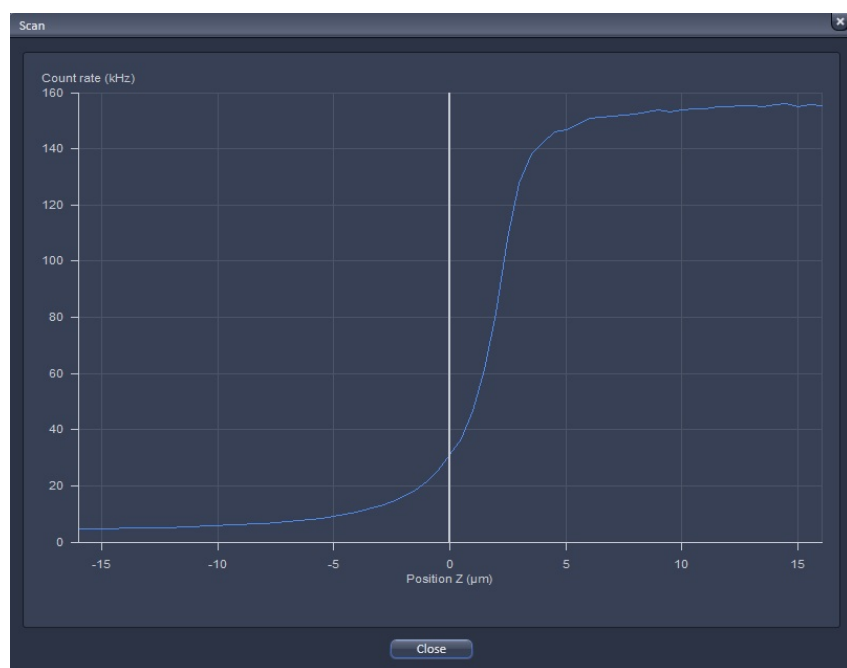

Fig. 321 Z Scan image
- Press the **xyz-Scan** ConfoCor action button to perform a z scan. The z scan is performed and the measured intensity is displayed in dependence of the z-position (Fig. 321). The red line in the diagram shows the actual z-position. Peaks (normally two from the two lower and upper membranes) show levels of high signal intensity and may correlate to labeled membranes. Note, that if the glass surface happens to be in the z scan range it will also give a peak. To determine its position, just perform a z scan at a